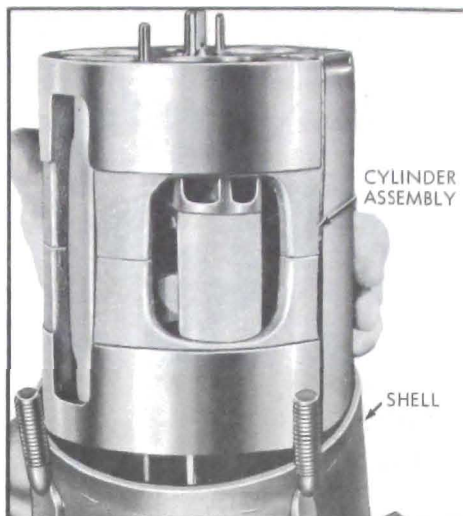

Figure 11-64—Removing Cylinder Assembly
2. Push on front of compressor shaft to remove cylinder assembly from shell. See Figure 11-64. The cylinder assembly will slide out of shell when shell is inverted.